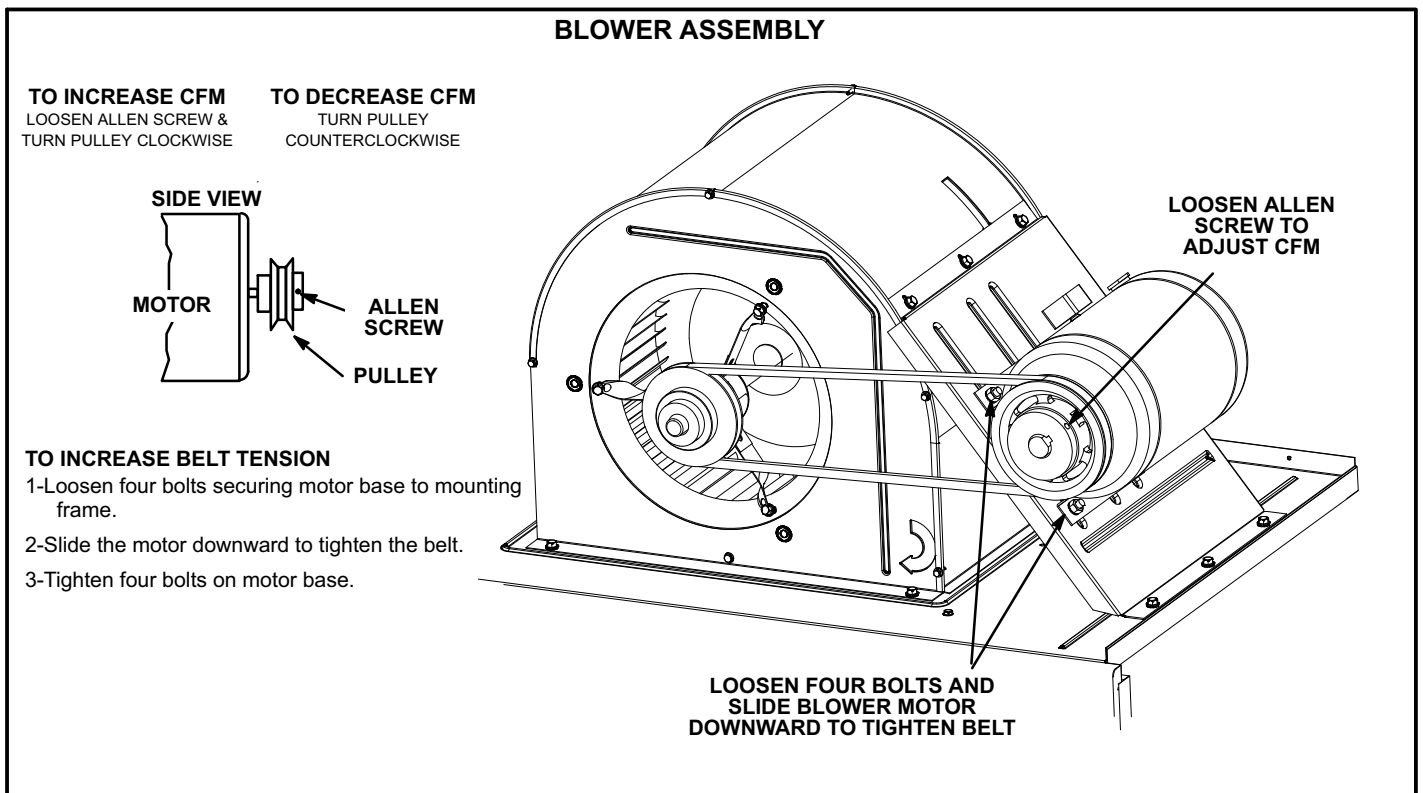

FIGURE 11
- 5- The blower RPM can be adjusted at the motor pulley. Loosen Allen screw and turn adjustable pulley clockwise to increase CFM. Turn counterclockwise to decrease CFM. See figure 11 Do not exceed minimum and maximum number of pulley turns as shown in table 5.
- 1- Loosen four bolts securing motor base to mounting frame. See figure 11.